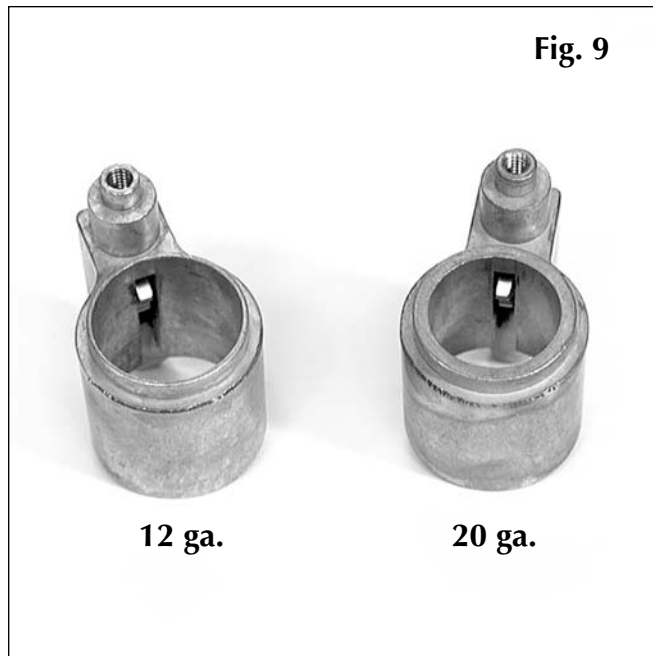

Fig. 9
3. From the 20 gauge conversion box, retrieve the 20 gauge casefeed sleeve, **Fig. 9**, and place it on the casefeed body. Reinstall the screw and washer onto the casefeed sleeve assembly.